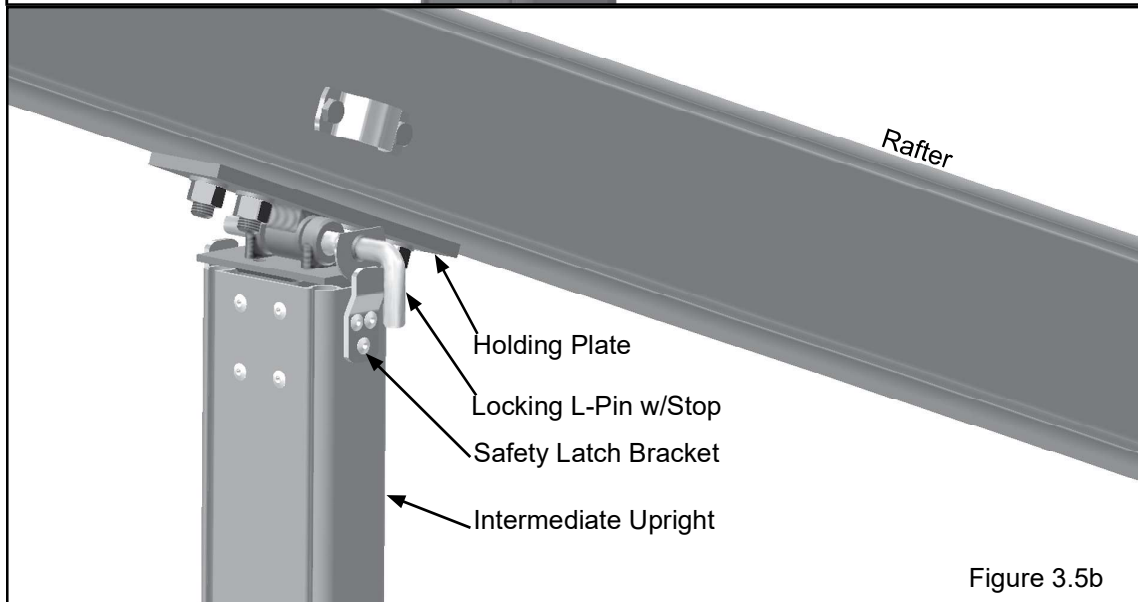

Figure 3.5b
3.5.3 At the Intermediate Uprights, connect the insert weldment at the top of the G.E. Upright to the holding plate using the locking L-Pin with stop. See **Figure 3.5b. IMPORTANT:** Pay attention that the collar on the L-pin is engaged in safety latch bracket at top of upright.